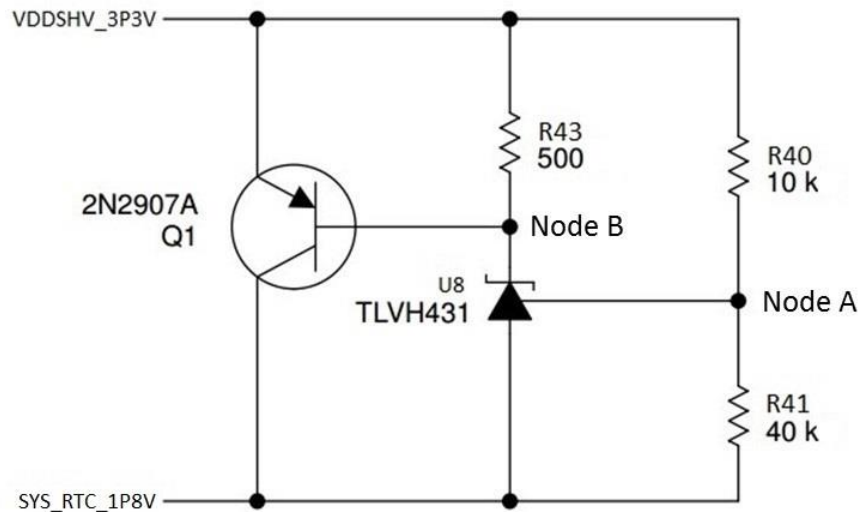

Figure 30 Clamping circuit
The clamping circuit (shown in Figure 30) will make sure that the voltage difference between the given two voltage rails (VDDSHV\_3P3V and SYS\_RTC\_1P8V) is less than 2V. Its operation will be discussed in three phases.
- The shunt regulator, TLVH431, will be OFF (acts as open switch) whenever the voltage at its reference input connected to node A (in Figure 30) is less than 1.24V. It will turn ON (act as closed switch) whenever voltage at its reference input (node A) is greater than 1.24V.